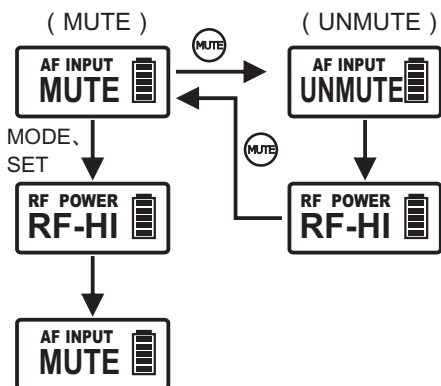

Fig. 14
2. Press MODE, SET buttons to access parameters. Returns to mute mode when button is not pressed for 5 seconds, Fig 14.